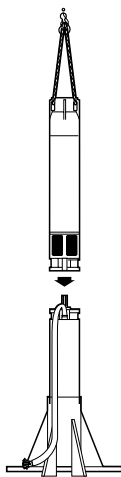

fig. 3
- Use the suitable equipment to lift the pump and when, perfectly vertical over the motor, lower it slowly taking care that the motor shaft enters freely into the pump coupling (fig. 3). **Protect your hands during this operation.**